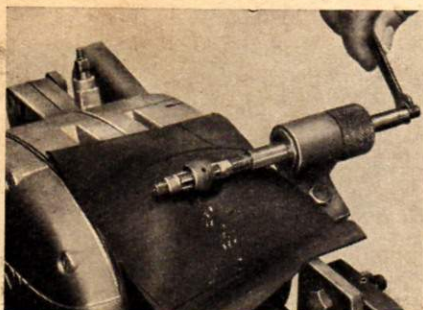

Fig. 53 Reaming connecting rod bushes VI / 57 / 811
4. Cover the cylinder opening in the crankcase with a piece of rubber hose and ream the small end bush as shown in fig. 53.